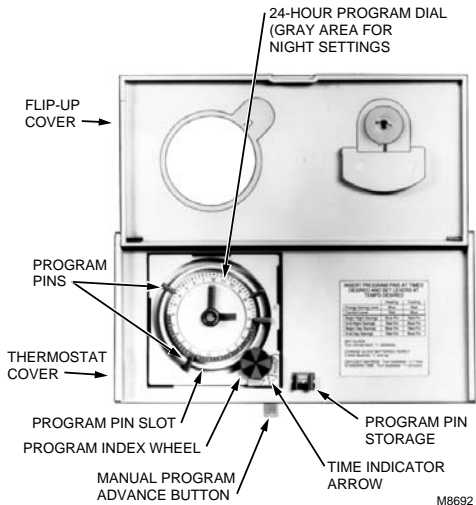

Fig. 4—Program components.
- Lift thermostat flip-up cover and you'll find the 24-hour program dial. The slots on the program dial (Fig. 4) are for the program pins, which can be inserted at 10-minute intervals.